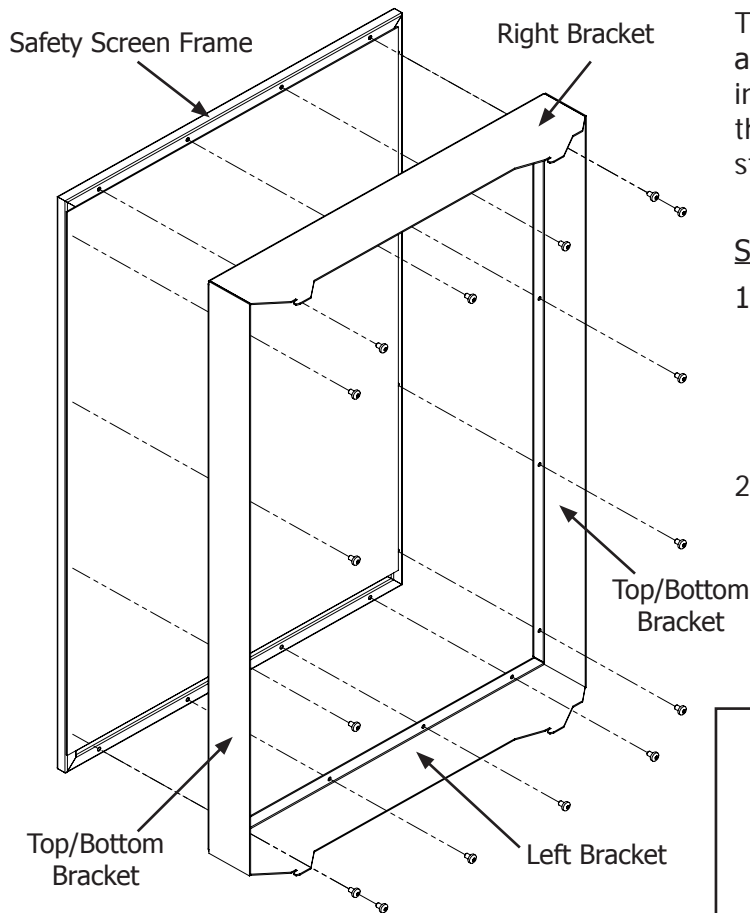

Figure 59: Installing Safety Screen Mounts.
1. Attach the left, right, top/bottom brackets onto the safety screen using a T20 screwdriver and the supplied sixteen (16) #8 T20 screws (see Figure 59). Do not over-tighten the screws, doing so could cause them to strip out of the screen frame.